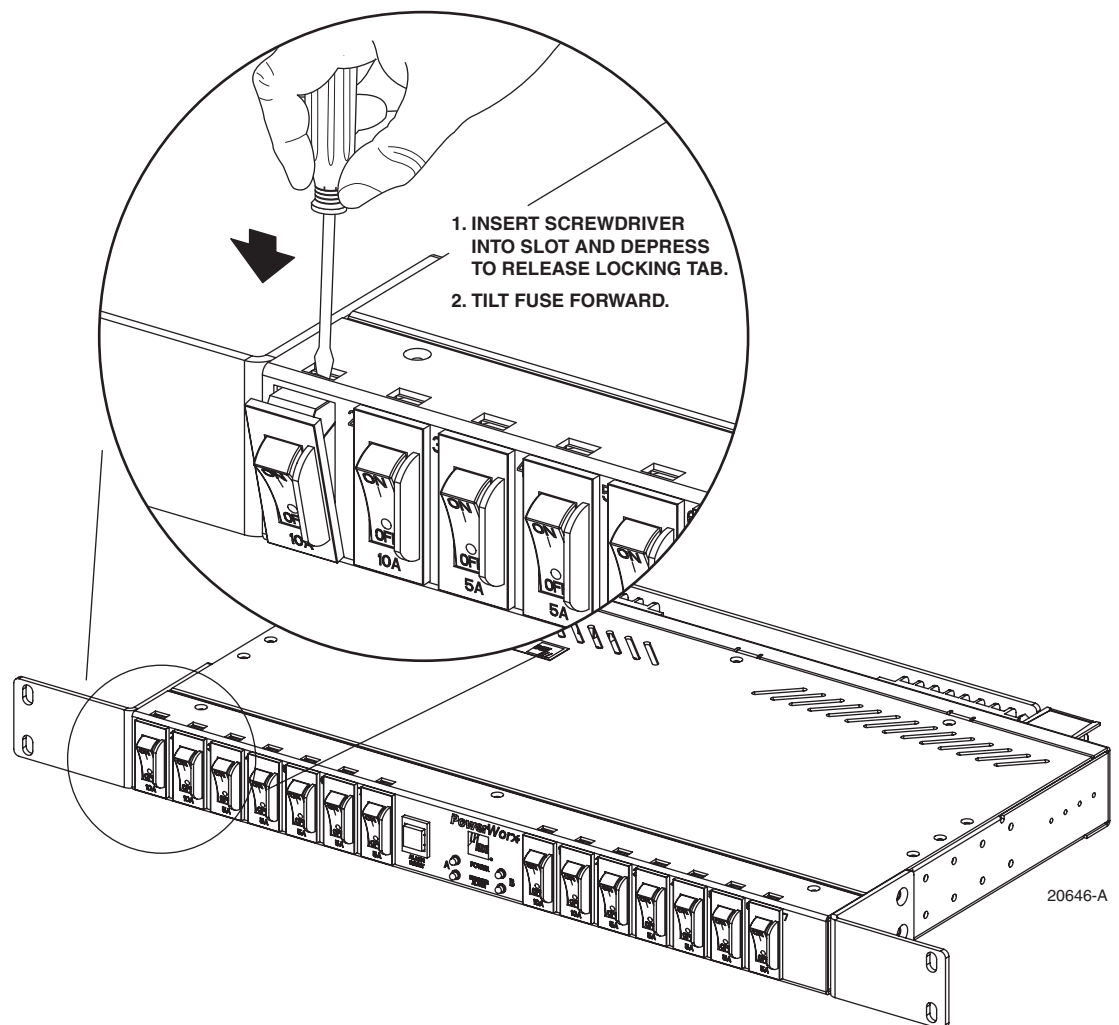

Figure 19. Releasing the Circuit Breaker Lock Tab
3. Insert a flat-bladed screwdriver into the slot above the circuit breaker as shown in Figure 19.